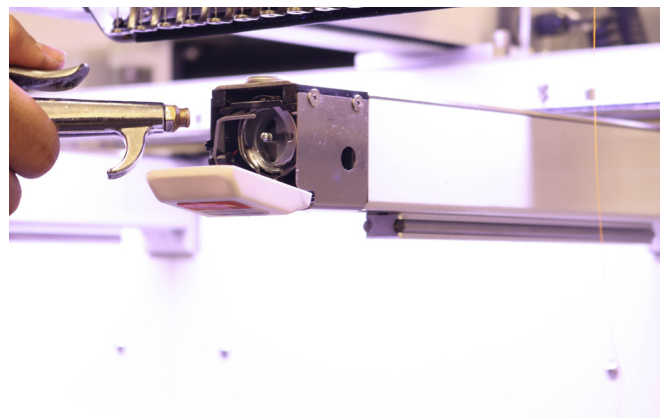

Figure 98
2. Remove the bobbin case and clean the hook assembly area with a soft brush, air compressor with a moisture filter or approved canned compressed gas product, such as Dust Off. **See Figure 98.**